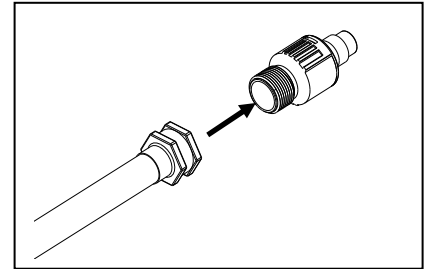

Fig. 1
1. Connect a garden hose to the check valve. Fig. 1